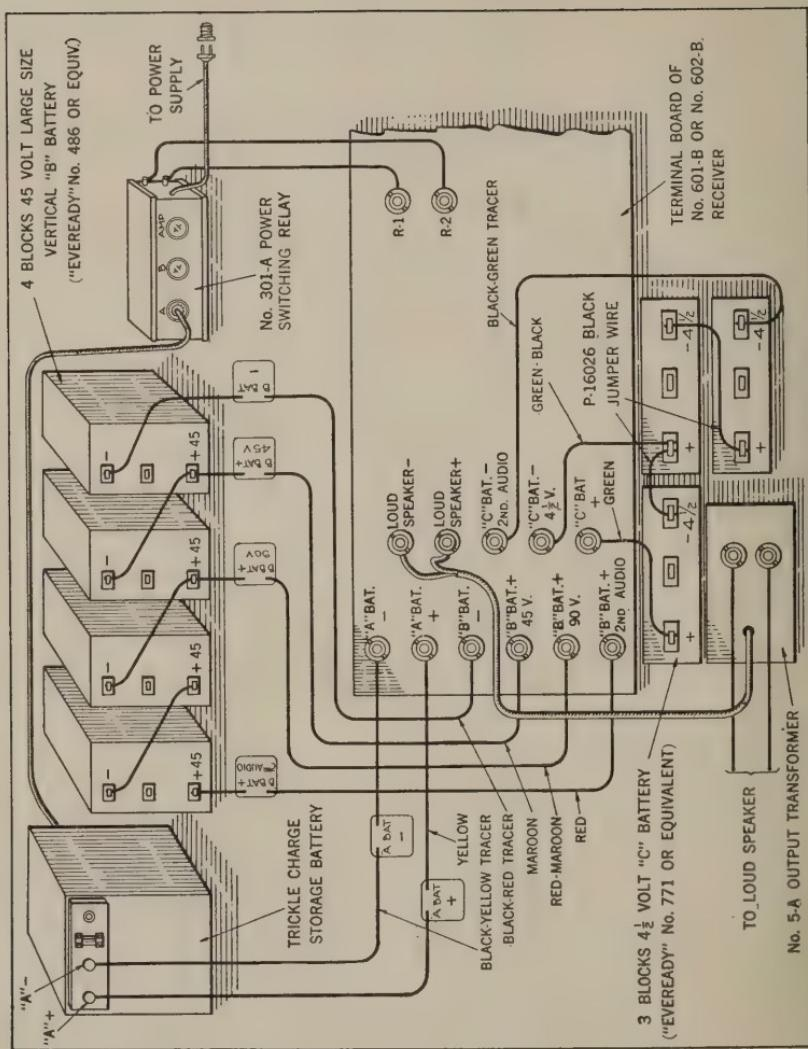

Fig. 5—External Connections for Socket-Power "A" and 180 volts of Dry Cell "B" Battery, when UX-112 Output Tube is used
**List No. 3—Socket-Power "A," 180-volt Dry Cell "B" Battery and UX-112 Power Tubes** (See Section 16 for description, Fig. 5 for wiring diagram and Fig. 27 for arrangement of apparatus).